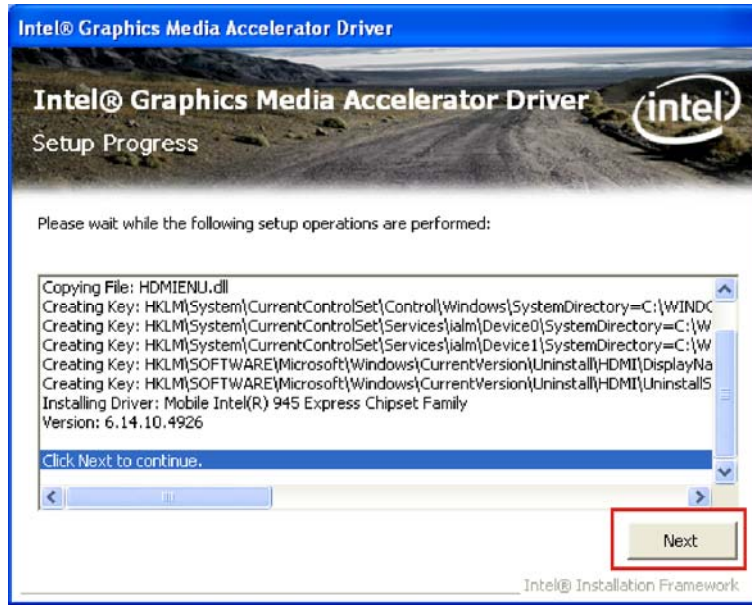

Figure 7-14: VGA Driver Setup Operations
Step 13: Setup Operations are performed as shown in **Figure 7-14**.